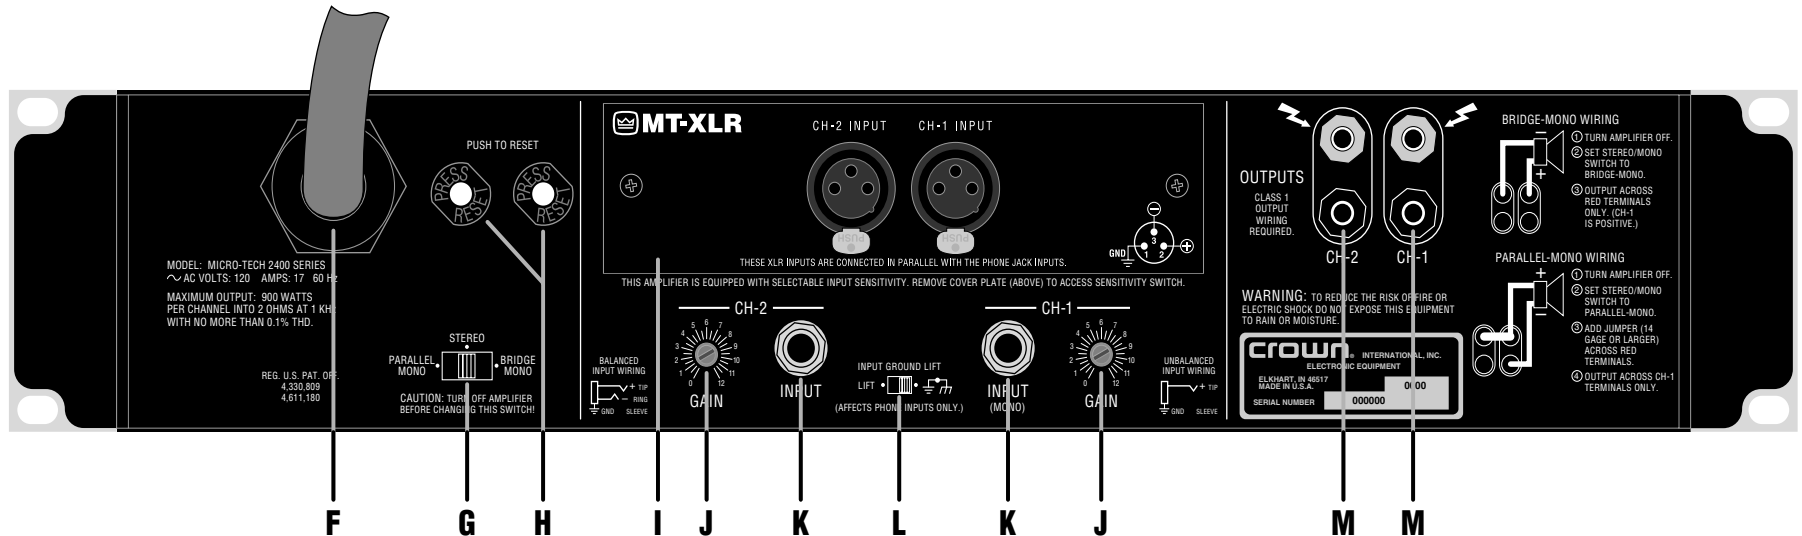

Figure 4.2 Rear Panel Connectors and Controls
The three-position input sensitivity switch is located inside the amplifier behind the MT-XLR module (Figure 4.2 letter "I"). The switch is set at the factory to a sensitivity of 0.775 volt for standard 1 kHz power into 8 ohms. (Factory setting for International versions is 1.4 V.) If desired, the sensitivity can be switched to 1.4 volts for standard 1 kHz power into 8 ohms, or a voltage gain of 26 dB. The 26 dB gain setting is equivalent to a sensitivity of 2.1 volts for the Micro-Tech 600, 2.5 volts for the Micro-Tech 1200 and 3.2 volts for the Micro-Tech 2400.
The three-position input sensitivity switch (Figure 4.2) is located inside the amplifier behind the MT-XLR module (I). See Section 3.7 for details.